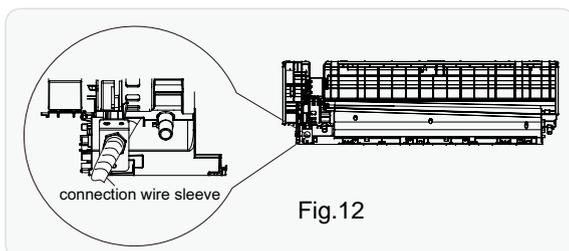

Fig.12
(2) Fix the connection wire sleeve on wire crossing board of the bottom case; the power connection wire passes through the wire crossing hole at the back of indoor unit shell after passing through the connection wire sleeve, and then pulls it out from the front. (As show in Fig.12)